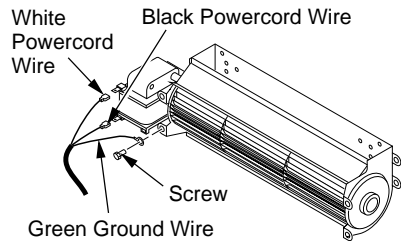

Figure 14 - Removing Wires from Blower
- Disconnect power cord wires from blower motor (if connected) (see Figure 14).
- Disconnect green ground wire from blower housing (if connected) by removing screw holding wire terminal (see Figure 14).
- Attach the terminal ends of the white and black power cord wires to the terminals on the blower motor (see Figure 14). Push firmly.
- Attach the terminal end of the green power cord wire to the front tab of the blower housing using screw provided (see Figure 14).